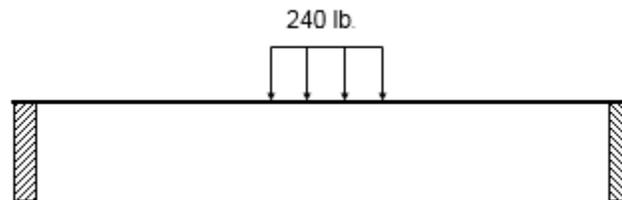

Figure 3. Uniformly Distributed Load
6. Each beam **must** support 240 lb. distributed over 6 in. at the center of the bridge (see Figure 3). Failure is defined as collapse or maximum deflection (> 1.5 in.) resulting in contact between the bridge and the horizontal base of the support. If your beam cannot support the 240 lb. design load, your beam is disqualified from the competition.